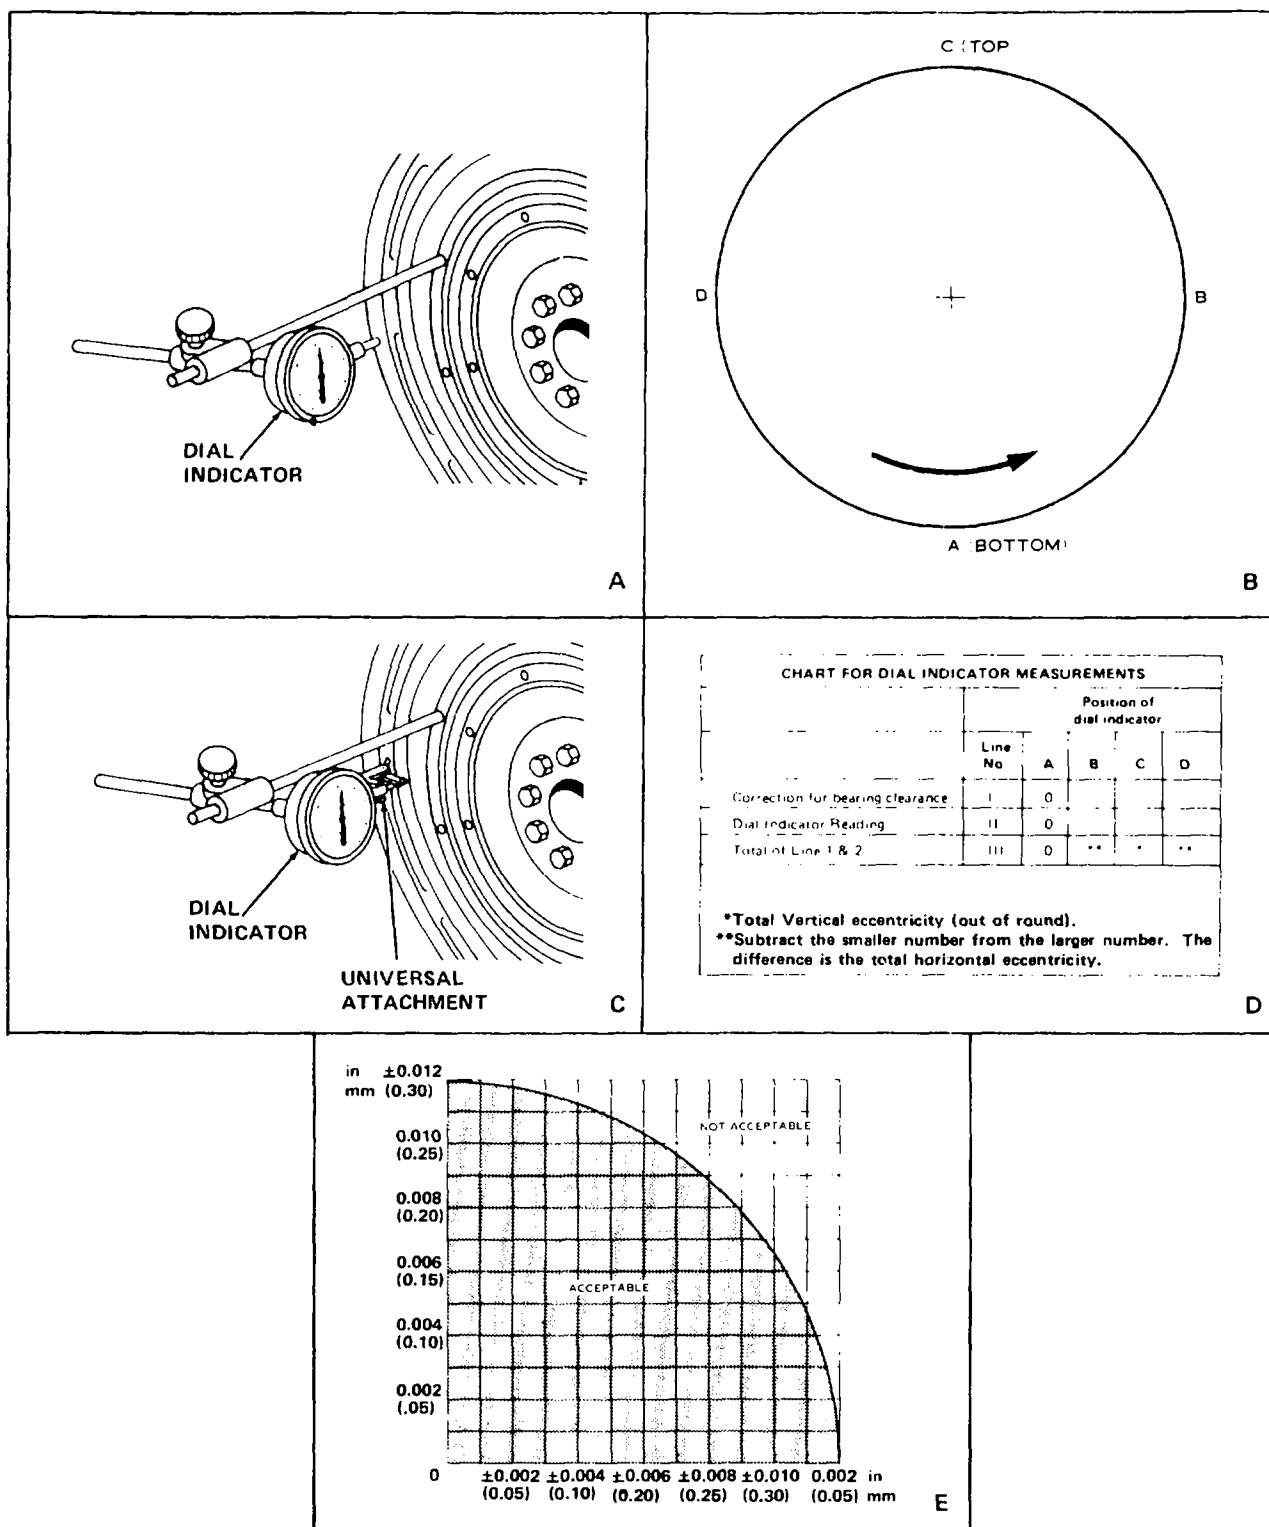

Figure 11-46. Checking Flywheel Housing Eccentricity
(1) Fasten a dial indicator to the crankshaft flange so the anvil of the indicator will touch the face of the flywheel housing (see figure 11-46 view A)
(2) Set dial indicator to read 0.000 inches (0.00 mm) at point A (see figure 11-46 view B).
(3) Turn the crankshaft and read the indicator at points B, C, and D. Put a force on the crankshaft towards the rear before reading the indicator at each point.
(4) The difference between the lowest and highest measurements taken at all four points must not be more than 0.012 inches (0.30 mm), which is the maximum permissible axial eccentricity (face runout) of the flywheel housing.
(1) Install dial indicator and universal attachment as shown in figure 11-46 view C.
(2) Refer to figure 11-46 view B and, with the dial indicator in position at point C, adjust the indicator to read 0.000 inch (0.00 mm). Push the crankshaft up against the top bearing. Write the measurement for bearing clearance on line I in column C of chart (see figure 11-46 view D).
(3) Divide the measurement from step 1 by 2. Write this number on line I in columns B and D.
(4) Turn the crankshaft to put the dial indicator at A. Adjust the dial indicator to read 0.000 inch (0.00 mm).
(5) Turn the crankshaft counterclockwise to put the dial indicator at B. Write the measurement in the chart.
(6) Turn the crankshaft counterclockwise to put the dial indicator at C. Write the measurement in the chart.
(7) Turn the crankshaft counterclockwise to put the dial indicator at D. Write the measurement in the chart.
(8) Add lines I and II by columns.
(9) Subtract the smaller number from the larger number in line III in columns B and D. The result is the horizontal "eccentricity" (out of round). Line III, column C is the vertical eccentricity.
(10) On the graph for total eccentricity (figure 11-46 view E) find the point of intersection of the lines for vertical eccentricity and horizontal eccentricity.
(11) If the point of intersection is in the range marked "Acceptable", the bore is in alignment. If the point of intersection is in the range marked "Not Acceptable" perform Step 12.